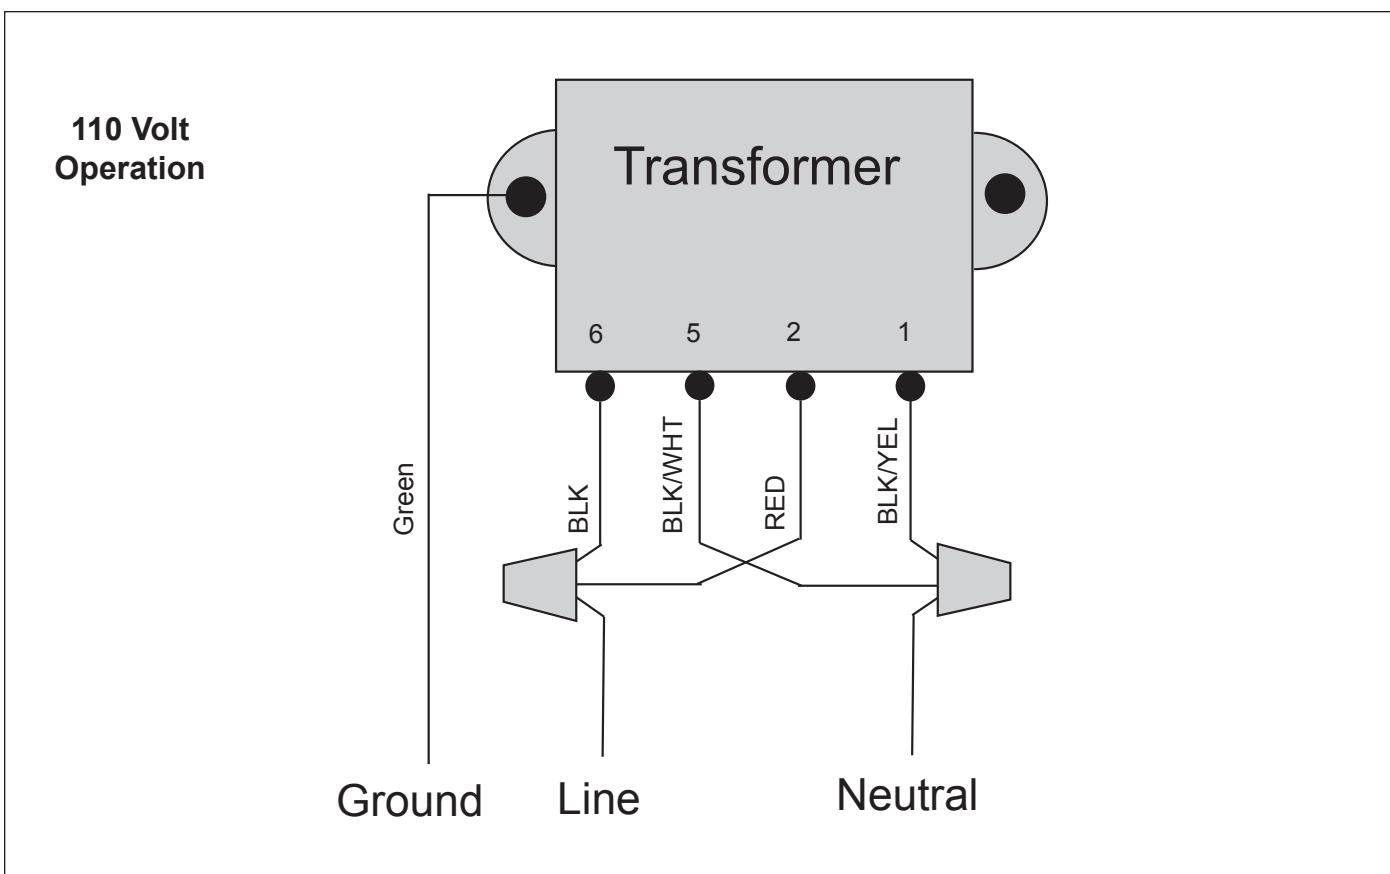

Figure 5. K-1100, K-2300, and LEV110CK/2G Modified Wiring for 110 Volt Operation
2. Connect the red wire with the black wire and connect to the line side of power. See Figure 5.
3. Connect the black/white wire with the black/yellow wire and connect to the neutral side of power. See Figure 5.